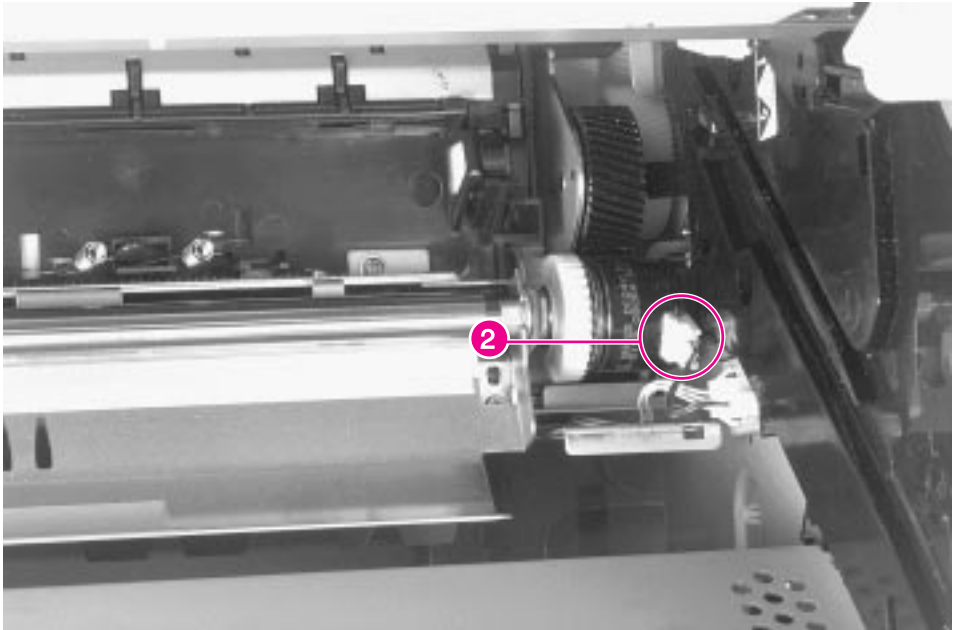

Figure 6-44 Registration Assembly (2 of 3)
- 4 Unplug the clutch cable from the clutch on the right end of the Registration Assembly (figure 6-44, callout 2).
- Registration Assembly (see figure 6-44 on page 208)